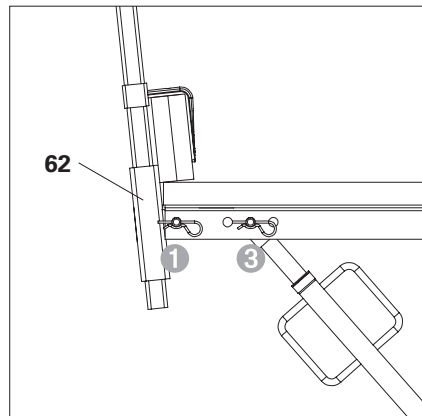
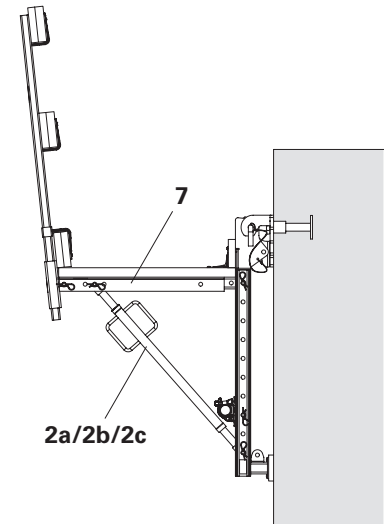

Fig. A4.04a
Fig. A4.04
- Guardrail Holder VGK (62) is always used on the 1st and 3rd hole of Formwork Post VGK 70 (7).
- (Fig. A4.04 + Fig. A4.04a)